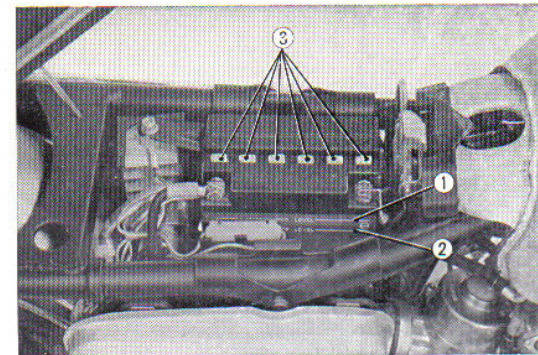

Fig. 6.42
- b. Electrolyte level must be above the lower level. When the level is low pour in distilled water to the upper level. (Fig. 6.42)